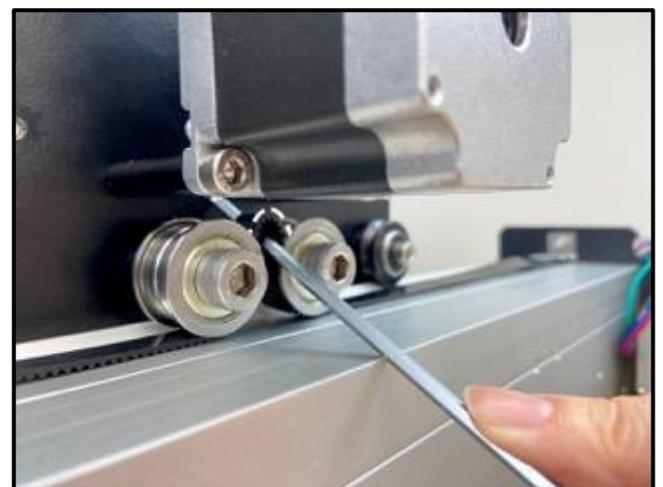

Figure 5-7
5. Slide the 3mm hex key under the belt, between the two idlers. Use the hex key as a lever against the X-rail to push a loop of belt up between the two idlers as shown in *Figure 5-7*.